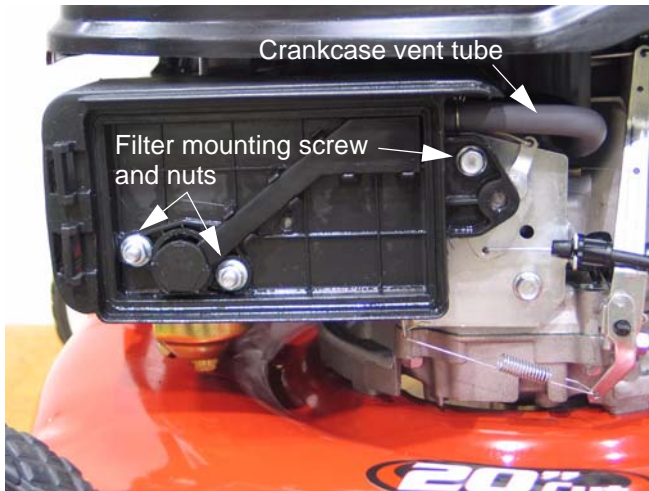

Figure 3.3
2. Remove the screw that holds the air filter housing to the control bracket. See Figure 3.3.
3. Remove the two nuts that hold the air filter body to the carburetor mounting studs. See Figure 3.3.